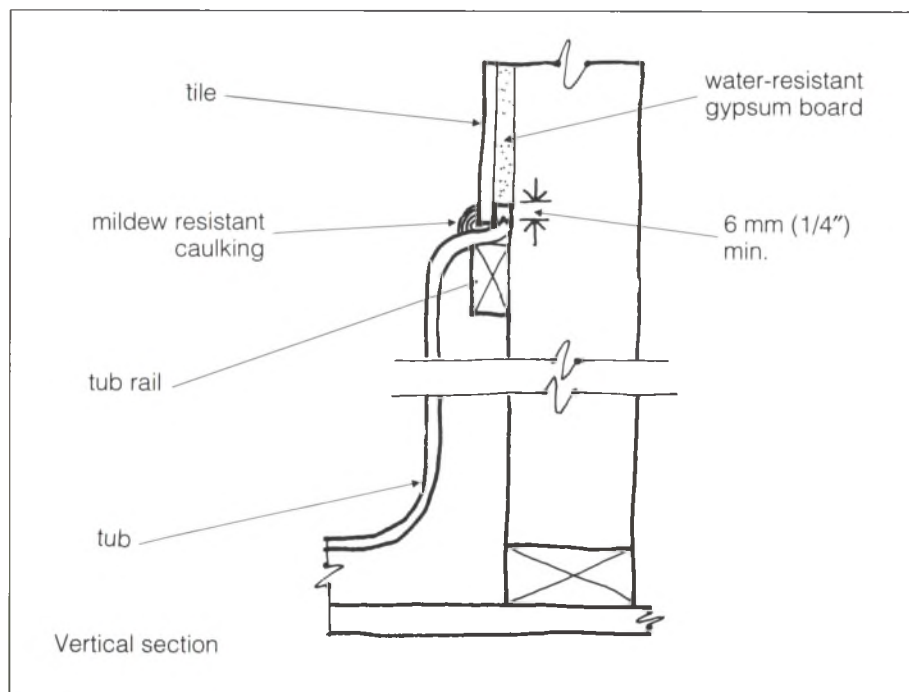

Fig. 24. Bathtub detail
- Allow 6 mm (1/4”) space between the drywall and the surfaces of the tub, shower floor or return (*fig. 24*).